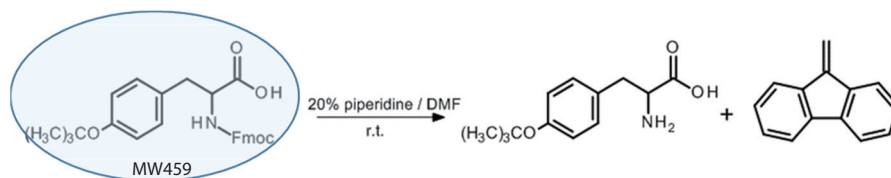

Fig. 2 Deprotection Reaction of Fmoc-Tyr(tBu)-OH
When a solution of 23.0 mg of Fmoc-Tyr(tBu)-OH(N-(9-Fluorenylmethoxycarbonyl)-O-tert-butyl-L-tyrosine) dissolved in 5 mL of DMF (solution ①) is mixed together with a solution of piperidine and DMF mixed at a 1:4 ratio (solution ②), a deprotection reaction of the Fmoc group will occur at room temperature (Fig. 2). 4.5  $\mu$ L of both solution ① and solution ② were injected onto a small (10  $\mu$ L) sample plate used in PESI solution analysis to induce a deprotection reaction and the reaction process was analyzed in real time.